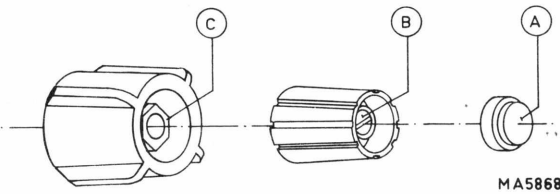

Fig. IX-1 Removing the knobs
B. REMOVING THE KNOBS (Fig. IX-1)